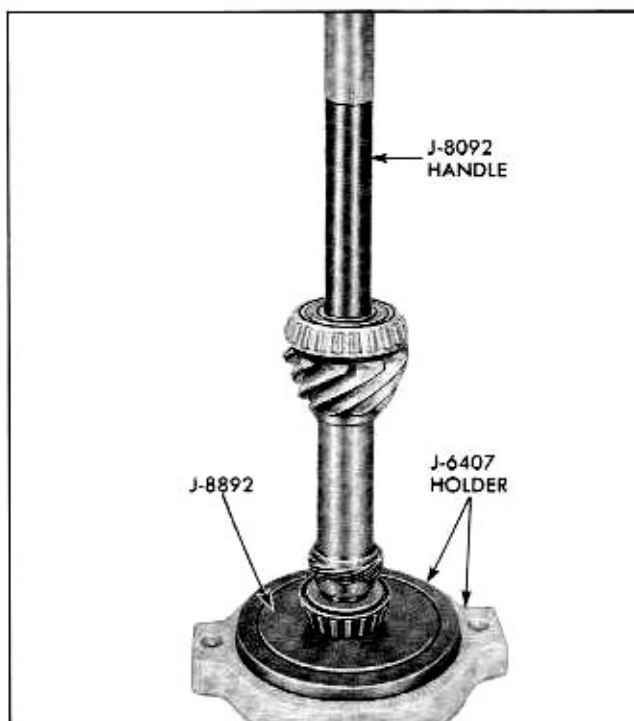

Fig. 4-39 Installing Front Pinion Bearing
3. Press on front pinion bearing using J-8892 in J-6407 holder and J-8092 handle (Fig. 4-39).